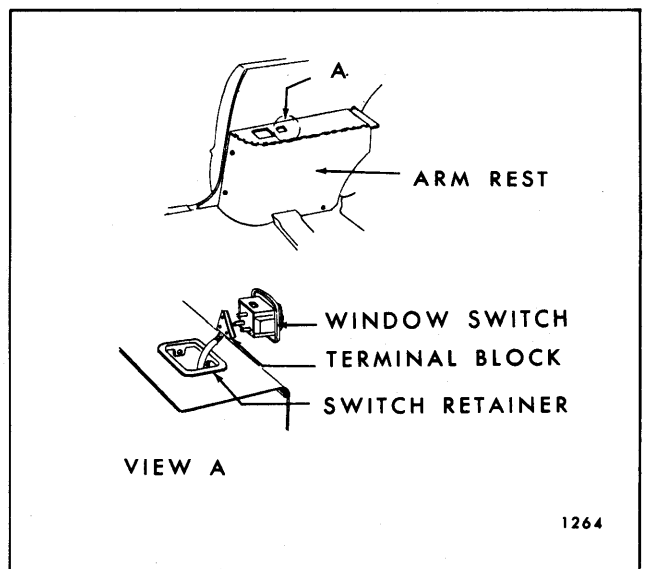

Fig. 14-21—Rear Quarter Arm Rest Window Switch
- g. On styles with other electrical devices in arm rest assembly, carefully detach arm rest from rear quarter inner panel sufficiently to disconnect wire harness connectors. Figures 14-21 and 14-22 are indicative of electrical installation in rear quarter arm rests. Lift arm rest in an upward, inboard movement and remove assembly from rear quarter inner panel.